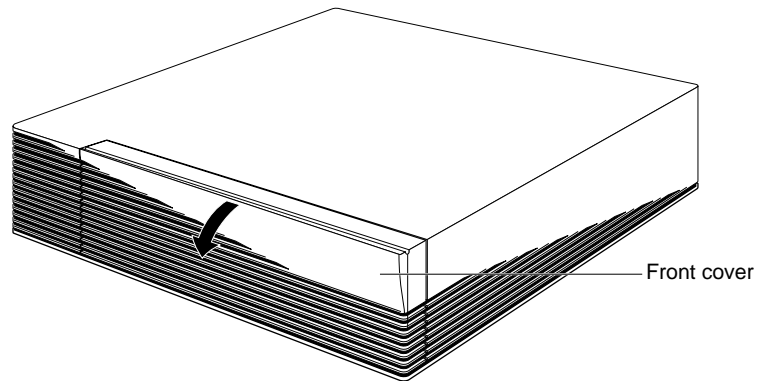

Figure 2-29 Opening the Front Cover
1. Open the front cover of the chassis, as shown in Figure 2-29.
- Snap the cover away from the top edge of the chassis and tip it down, as shown in Figure 2-29.